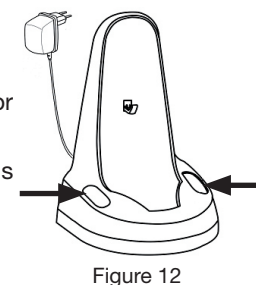

Figure 12
- The attachments can be stored in the compartments provided for this purpose on either side of the charging base (Fig. 12).